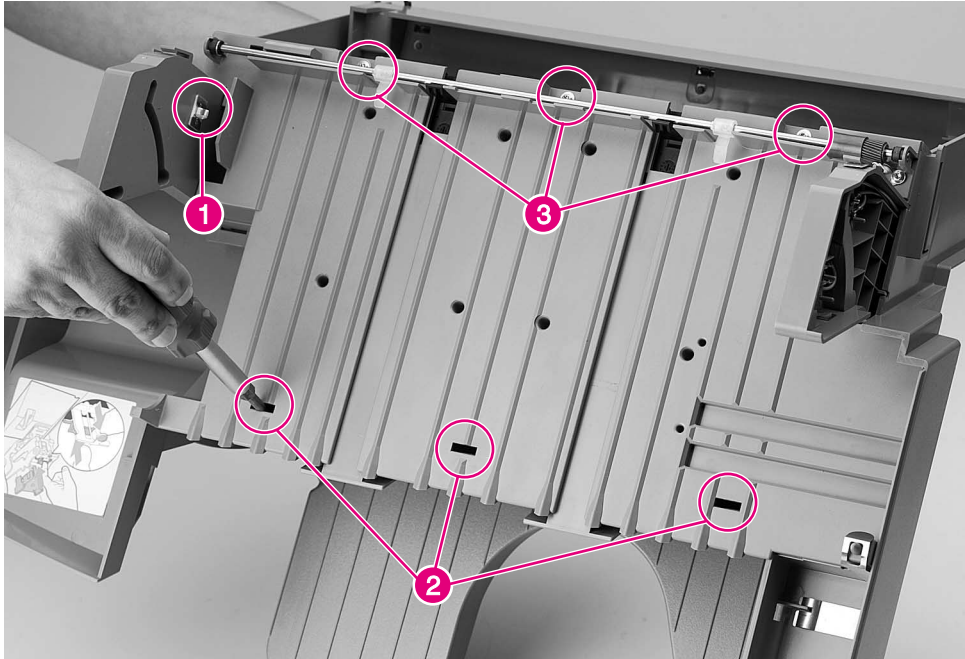

Figure 6-188 Stapler Bed Assembly
- 3 Remove the Stapler Unit Controller PCA (see figure 6-188 on page 475, callout 1).
- 7 Insert a flat-blade screwdriver into the top of the Stapler Bed Assembly and push gently to release the latches in the front of the stapler bed (see figure 6-188 on page 475, callout 2).
- 8 Remove 3 Torx screws that join the stapler bed with the rest of the unit (see figure 6-188 on page 475, callout 3).
- 3 Remove the Stapler Bed Assembly (see figure 6-188 on page 475).